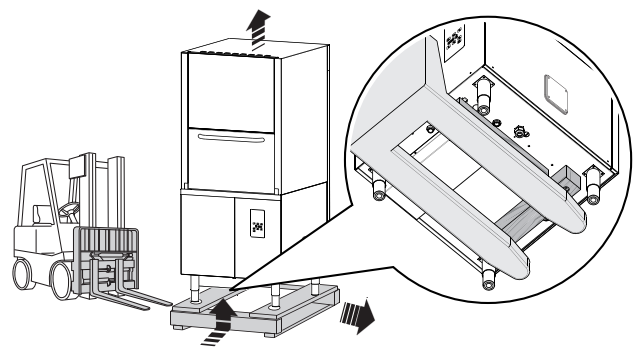

Figure 6 Appliance positioning
- Lift equipment with a lift truck, inserting the forks as indicated below, remove the base and position the appliance where it is to be installed (Figure 6).